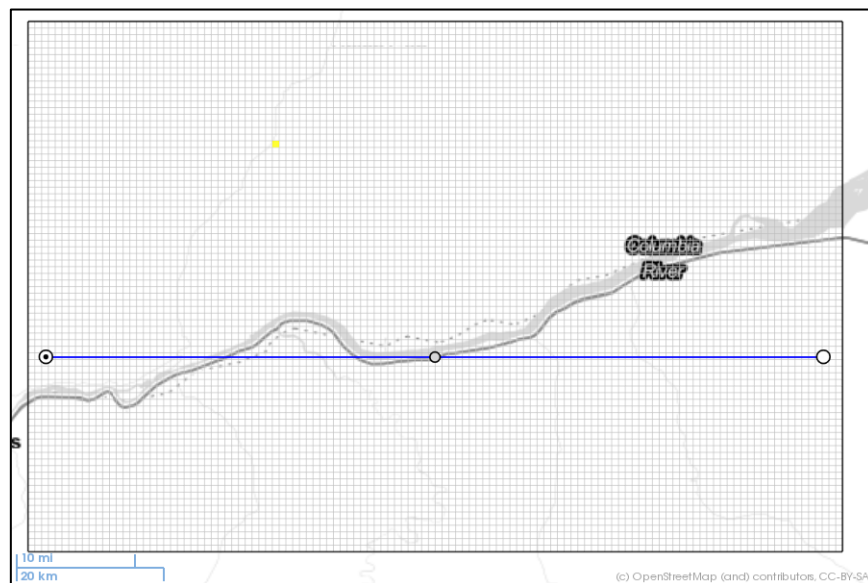

Figure 18. A polyline shown on the map viewer
- **Add Polyline:** Select this item to add a polyline to the map (Figure 18). The polyline is centered on the clicked location and stretched to east and west bounds of the current view.